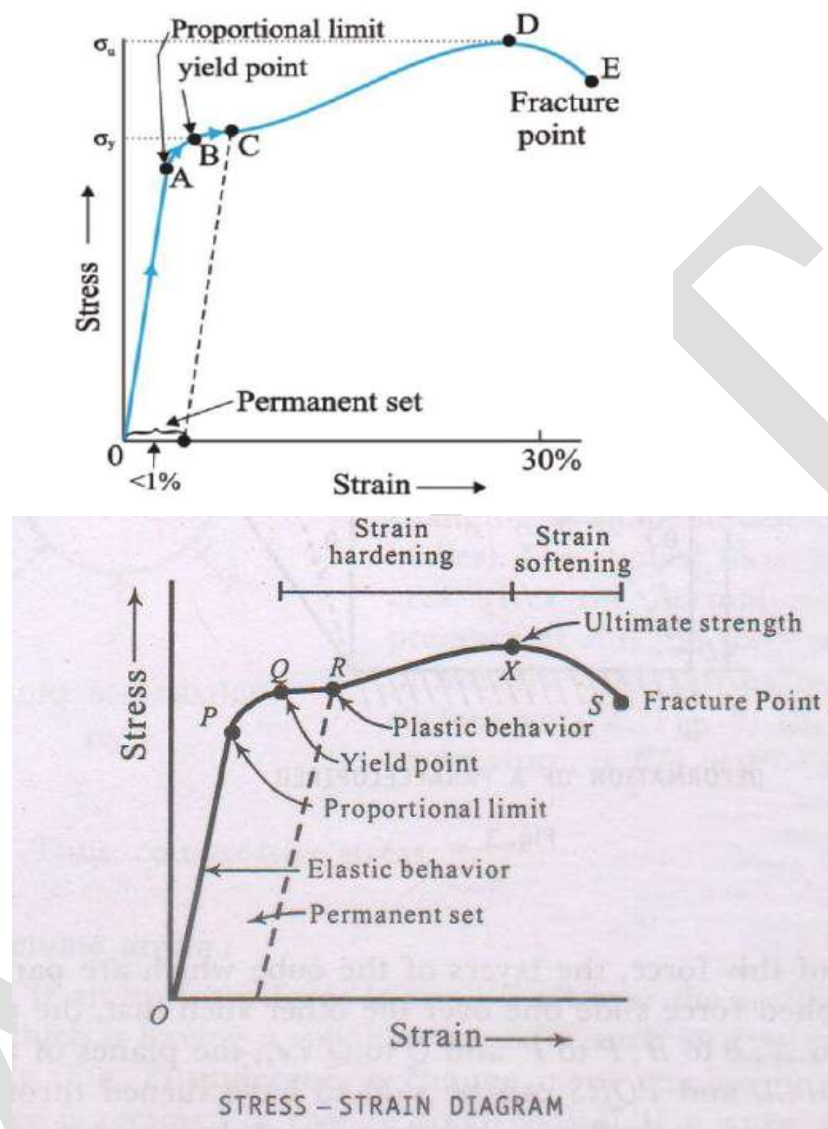

Fig. 1.3 A typical stress-strain curve for a metal
Typical stress strain curve for a metal is shown in Fig. 1.3. This graph is plotted between the stress (which is equal in magnitude to the applied force per unit area) and the strain produced.
- Above point Q the strain increases rapidly even for a small change in the stress (The portion between Q and X). In this region the body does not regain its original dimension and when the stress is made zero, the strain is not zero. Thus the material is said to have a permanent set and the deformation is said to be plastic deformation (See Fig. 1.3).
- After the point X, additional strain is produced even by a small applied force and fracture occurs at point S (See Fig. 1.3).
- The ratio of stress and strain, in the proportional region within the elastic limit of the stress strain curve (region OP in Fig. 1.3) is called modulus of elasticity and is characteristic of the material.